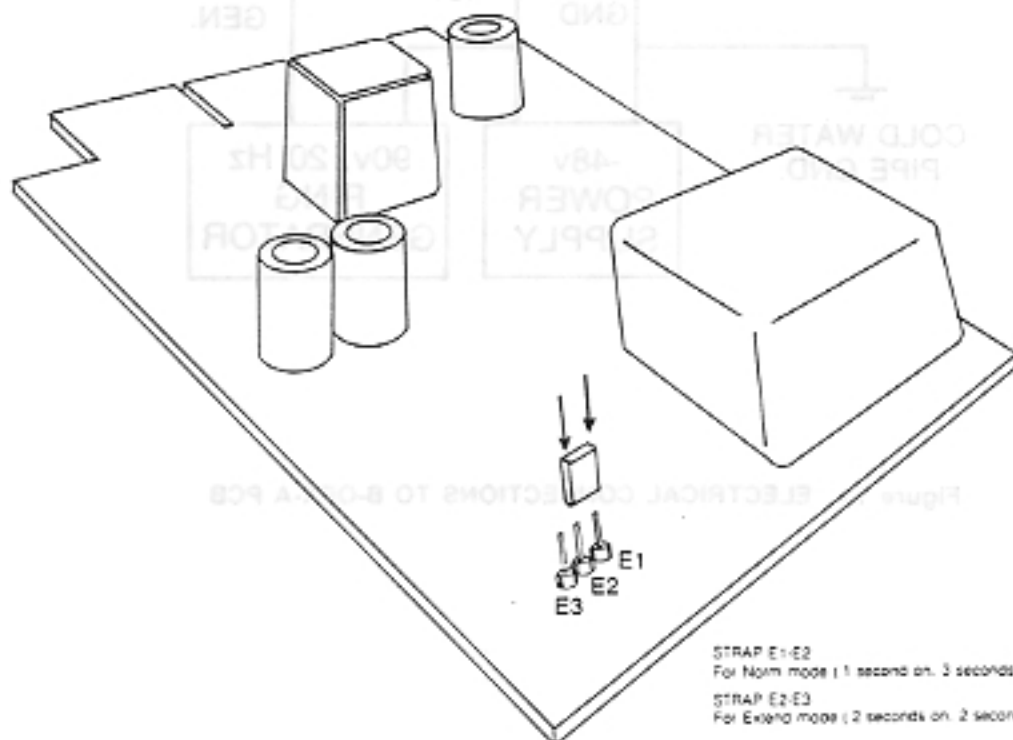

Figure 10 B-OPX-A PCB WITH STRAP OPTIONS
**4.12** The B-OPX-A PCB serves one Off Premises extension. It must be strapped for the desired ring mode. Strap E1 and E2 to provide the Norm ring mode ( 1 second on; 3 seconds off ). Strap E2 and E3 to provide the Extend ring mode ( 2 seconds on; 2 seconds off ) ( Figure 10 ). An OPX with a longer loop may require the Extend strapping to ensure proper ring detection.